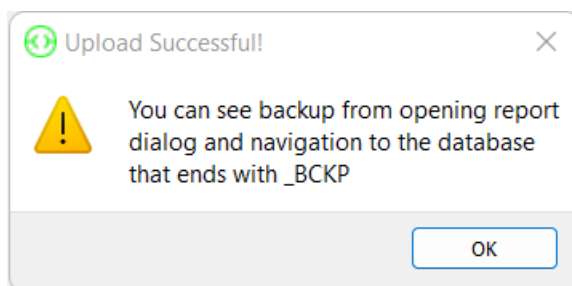

*Figure 117: Recovering Chart Data - Uploading File Dialogue window*
6. This process should open the 'Uploading file for channel X' dialogue window shown in Figure 117 on the next page. It should calculate how many points of data it needs to recover and then visibly show progress of the download. If this window freezes, close it, and the HEAT VIEW computer application and power cycle the controller for at least 30 seconds and reattempt the recovery.